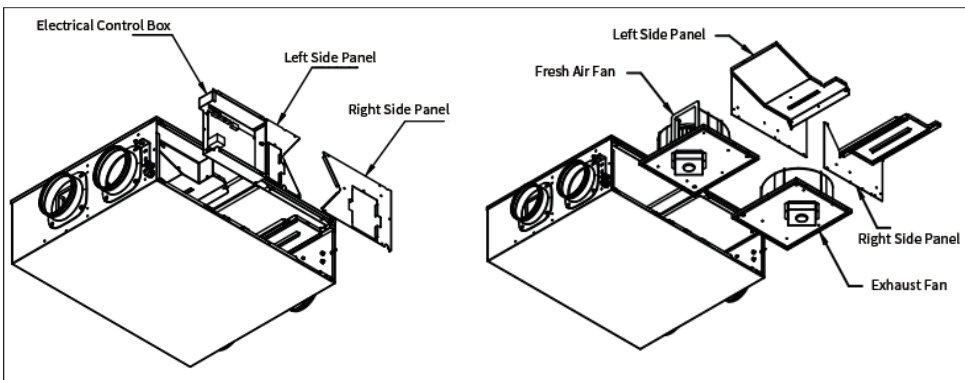

Figure 9. Disassembly Diagram for KOMFORT GLA D250/350(F) Fan
Filters cannot completely prevent dust from entering the product, which may reduce the airflow of the product. You can use a soft cloth or brush to wipe the impeller. It is not allowed to rinse with water, contact with rough detergents, sharp objects, chemicals, etc. Maintenance of the fan in the KOMFORT GLA series: (refer to Figures 9 and 10)
3. For KOMFORT GLA D250/350(F) models, remove the internal sheet metal of the chassis before removing the fan. (refer to Figure 9)